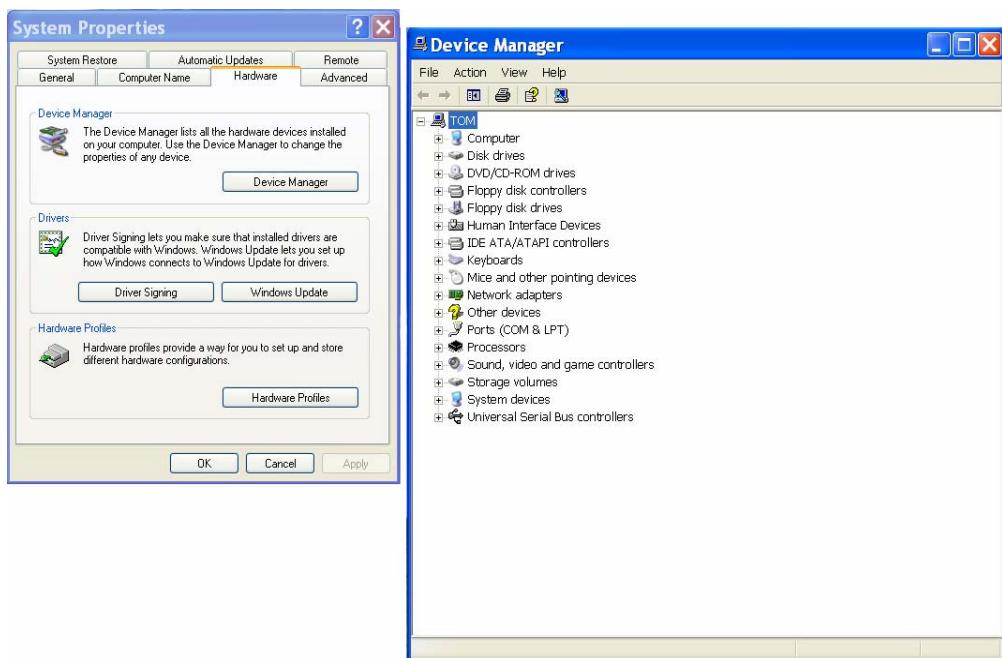

Fig.3-7 : Device Manager in Hardware of System Properties
Step 2 : Click 【Hardware】 , then click 【Device Manager】 ; The Device Manager in Hardware of System properties will be shown as Fig.3-7 .